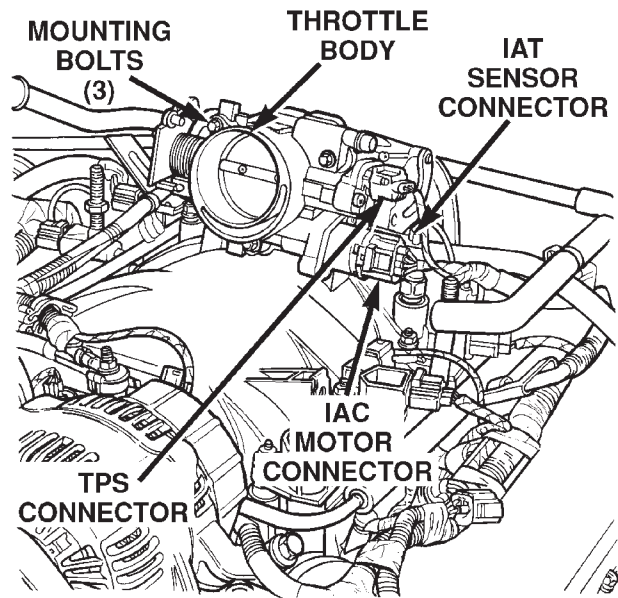

Fig. 23 Throttle Body, Sensors and Electrical Connectors—4.7L V-8 Engine
- (1) Remove the air duct and air resonator box at throttle body.
- (2) Disconnect throttle body electrical connectors at IAC motor and TPS (Fig. 23).
- (3) Remove vacuum line at throttle body.
- (4) Remove all control cables from throttle body (lever) arm. Refer to Accelerator Pedal and Throttle Cable.
- (5) Remove three throttle body mounting bolts (Fig. 23).
- (6) Remove throttle body from intake manifold.
- (1) Remove air duct and air resonator box at throttle body.
- (2) Disconnect TPS electrical connector (Fig. 23).
- (2) Disconnect electrical connector from IAC motor (Fig. 23).